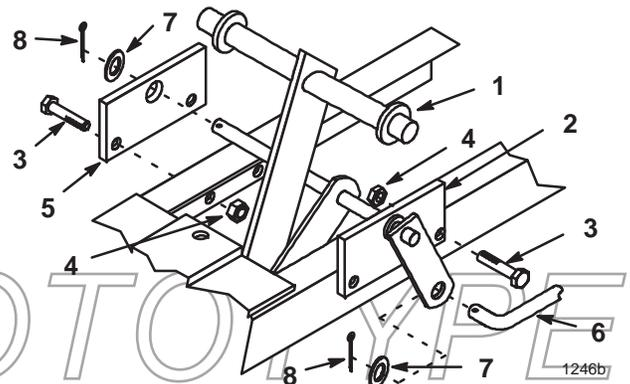

Figure 5
- Place front lift weldment between frame and attach captured plate to frame with (2) 3/8 x 1" bolts and (2) 3/8" lock nuts (Fig. 5).
- Slide remaining plate over shaft and secure to frame with (2) 3/8 x 1"bolts and (2) 3/8"lock nuts. Secure lift assembly shaft to plate with 5/8" washer and cotter pin (Fig. 5).
- Attach lift rod to lift weldment and secure with 5/8" washer and cotter pin (Fig. 5).